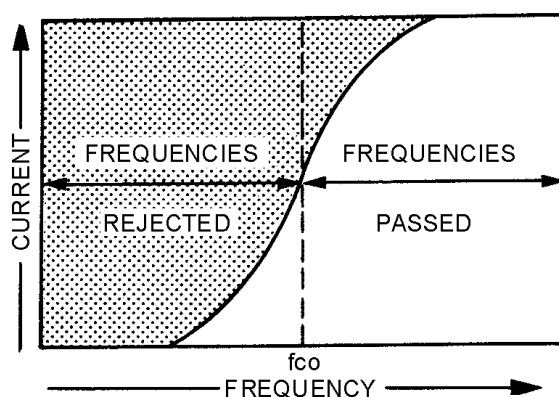

Figure 1-17.—High-pass filter response curve.
A high-pass filter circuit passes all currents having a frequency higher than a specified frequency, while opposing all currents having a frequency lower than its specified frequency. This is illustrated in figure 1-17. A capacitor that is used in series with the source of both high and low frequencies, as shown in view (A) of figure 1-18, will respond differently to high-frequency, low-frequency, and direct currents. It will offer little opposition to the passage of high-frequency currents, great opposition to the passage of low-frequency currents, and completely block direct currents. The value of the capacitor must be chosen so that it allows the passage of all currents having frequencies above the desired value, and opposes those having frequencies below the desired value. Then, in order to shunt the undesired low-frequency currents back to the source, an inductor is used, as shown in view (B). This inductor must have a value that will allow it to pass currents having frequencies below the frequency cutoff point, and reject currents having frequencies above the frequency cutoff point, thus forcing them to pass through the capacitor. By combining inductance and capacitance, as shown in view (C), you obtain the simplest type of high-pass filter. At point P most of the high-frequency energy is passed on to the load by the capacitor, and most of the low-frequency energy is shunted back to the source through the inductor.